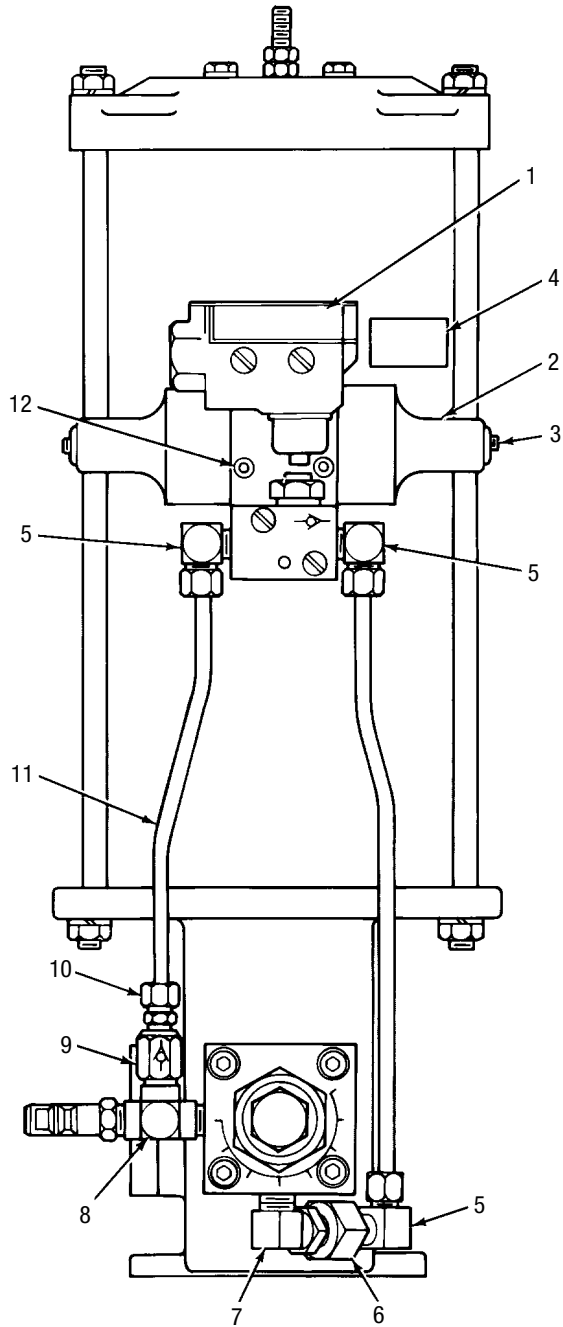

Figure 6-1. High-Pressure Blowout Switch Assembly (Front View)
6.3.1 General. Maintenance tips, disassembly, and assembly instructions for reservoir blowout switches are discussed in Paragraphs 6.3.2, and 6.3.3. A typical reservoir with a high-pressure blowout switch is shown in Figure 6-1 and should be referred to during the discussion.
NOTE: The plunger shown in Figure 6-1 must be manually retracted from contact with the switch after a high-pressure situation occurs.
6.3.3 Assembly/Disassembly of High-Pressure Blowout Switch. Figure 6-1 shows a typical blowout switch mounted on a reservoir. All components are connected by pipe threads and tubing and are easily assembled or disassembled. The blowout assembly is connected to the IND port on the manifold. The return elbow (5) is piped into the fill port of the reservoir. Normally, the only components which may require removal are the switch (1) and blowout disc. Access to these components is easily achieved after removal of any connective tubing.
6.3.4 High-Pressure Blowout Switch Parts Lists. Table 6-3 identifies the parts indexed on Figure 6-1.
TABLE 6-3 HIGH-PRESSURE BLOWOUT SWITCH PARTS LIST (FIGURE 6-1)